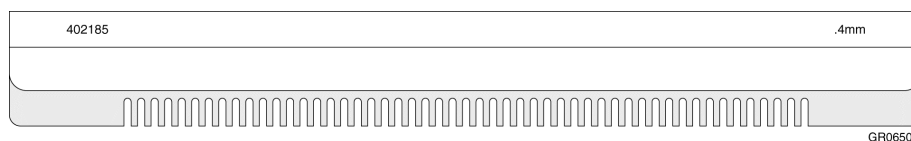

Figure 4-2. Square-tooth comb
1. Before you remove the square-tooth comb (Figure 4-2), lay the appropriate plastic overlay strip on the clean glass. Align the well outlines on the overlay strip with the white teeth of the comb.